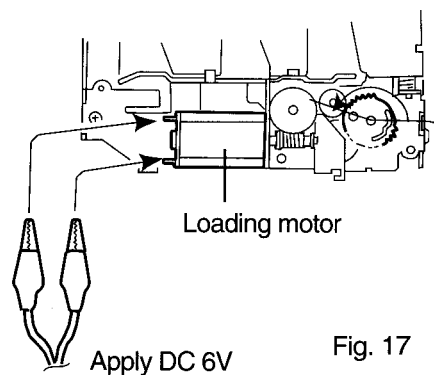

Fig. 17
8. After the installation , apply DC6V to the lead wires of the loading motor assembly to locate the load gear assembly as shown in Fig. 17.